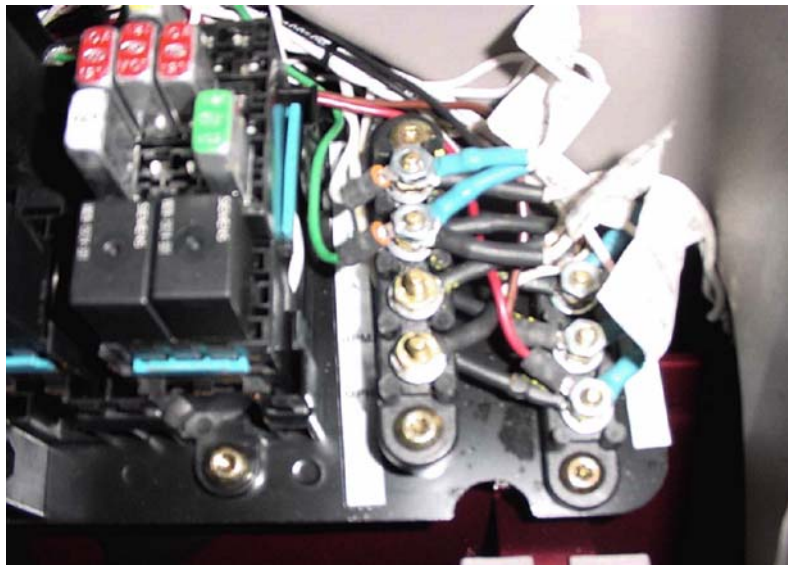

Figure 14: Vehicle Data Bus VMACIII
- 3 Connect the Vehicle Power Cable to the Vehicle Data Bus. It is imperative that the connection sequence as defined in Table 2 be followed. Figure 14, below, illustrates a Vehicle Data Bus.